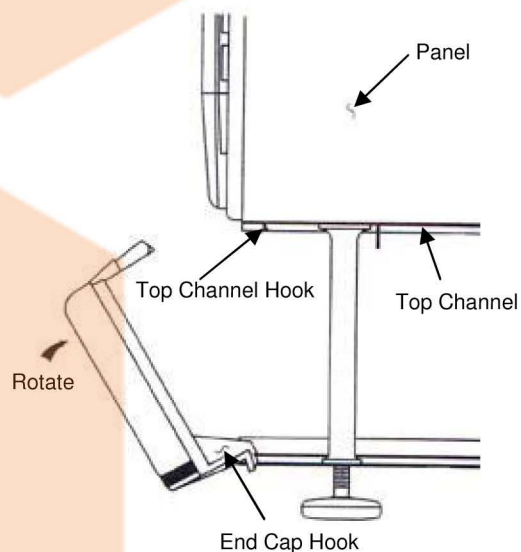

FIGURE 9
B. Rotate end cap up so that the end cap latch lines up with the hook in the top channel. Push end cap in under the top channel until the latch engages the hook. Finally pull back on the top of the end cap to be sure that the latch properly engages the hook. See Figure 9.